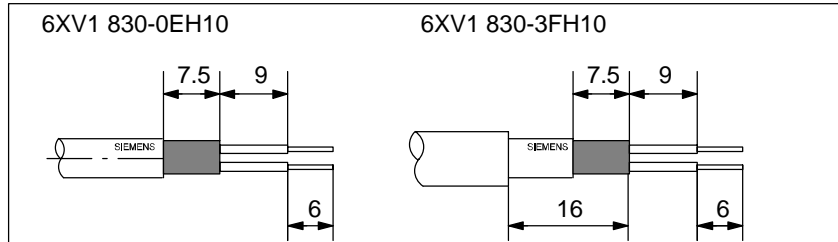

Figure 4-16 Cable Stripped for Connection to Bus Connector (6ES7 972-0B.11 ...)
- Strip the LAN cable as shown in Figure 4-16 using the FastConnect stripping tool (sizes and lengths are shown in the table on the rear of the tool).